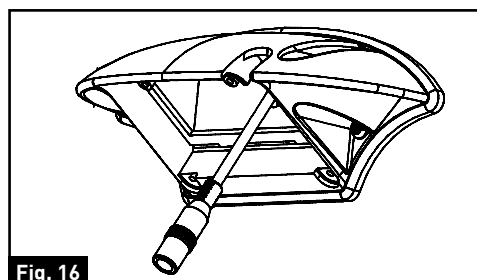

Fig. 16
8. Pull out the camera power cable, leaving approx 2 inches of slack. (Fig. 16)